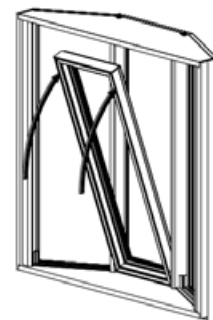

Figure D1
2. Start by angling the top of the insert window back and placing the interior bottom of insert window down onto seat cap. **(Figure D1)**